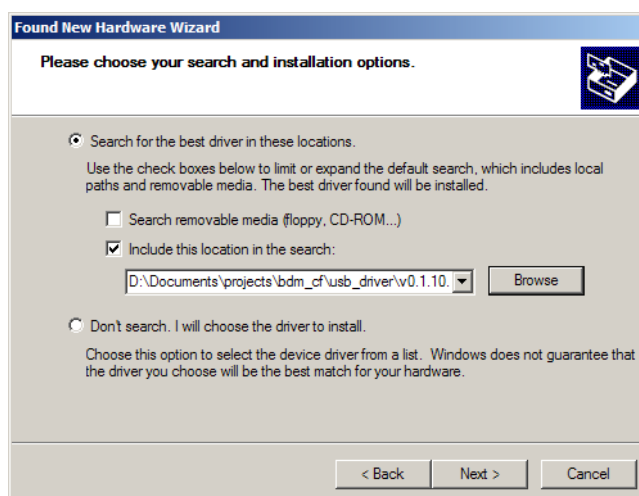

FIGURE 8. Location of drivers
3. Point the installation wizard to the directory where you have unzipped the driver binary package (see figure 8).